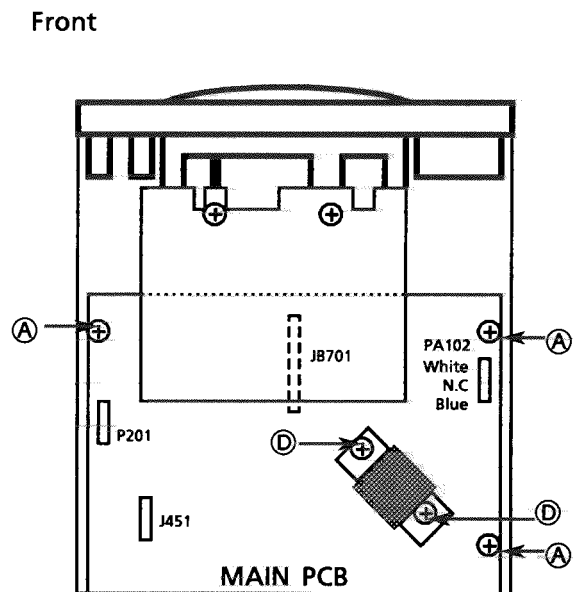

Fig.4 Top view
2. Disconnect the JB701, J451, PA102 and P201. (Fig. 4)
3. Remove the 3 screws (A) fixing Main PCB.
4. Remove the 2 screws (D) fixing power transformer.